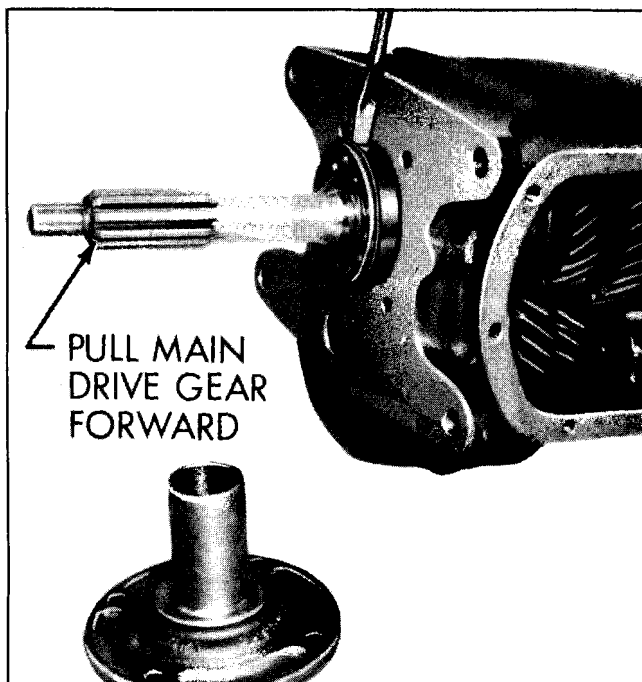

Fig. 7C-7 Removing Front Bearing
4. Pull main drive gear out of case as far as possible and remove front bearing (Fig. 7C-7).